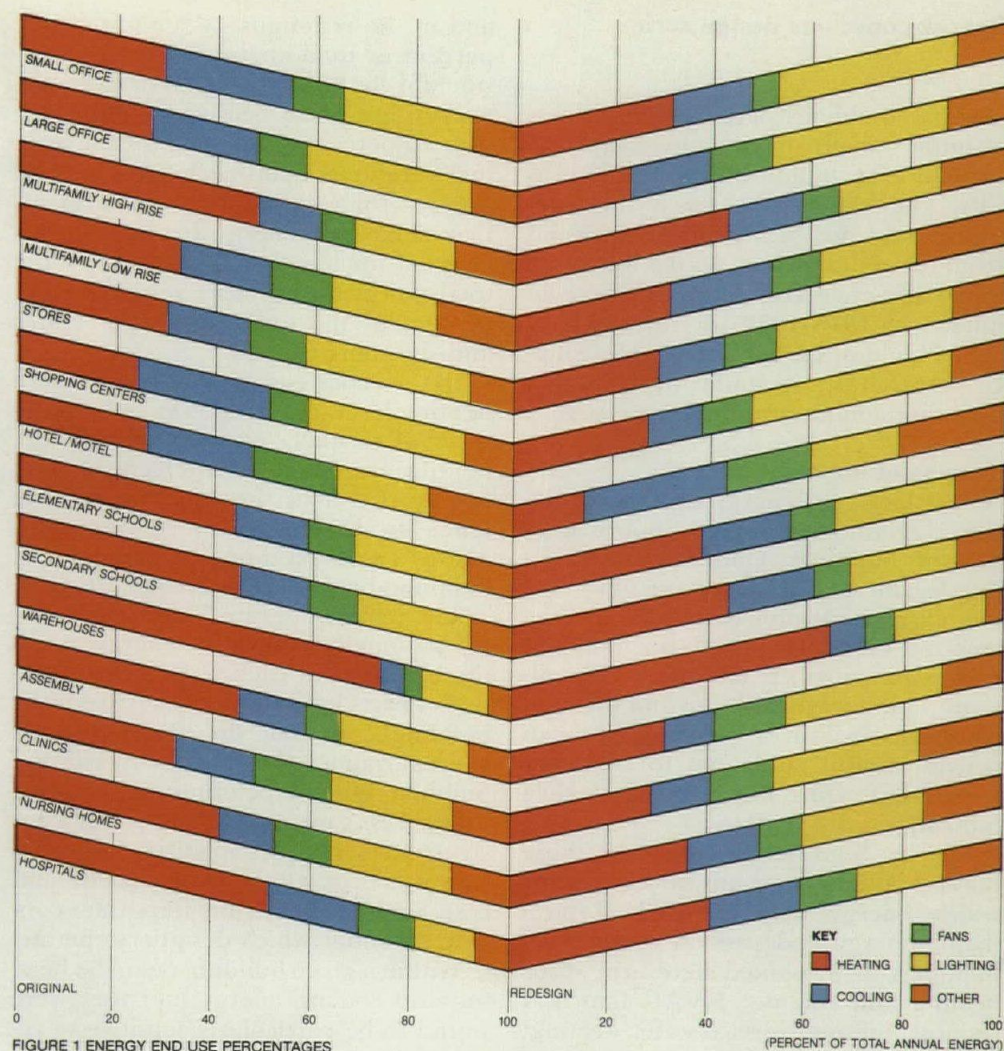
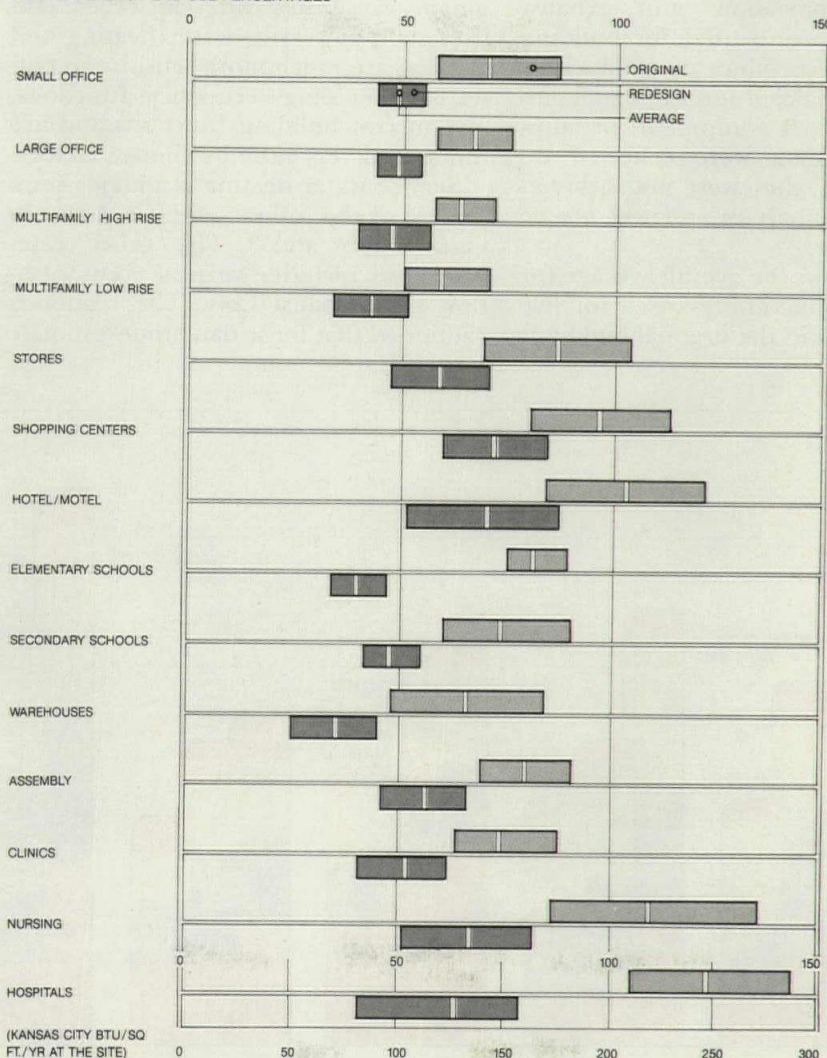

FIGURE 1 ENERGY END USE PERCENTAGES
FIGURE 2 ENERGY PERFORMANCE RANGES
**Figure 1** Bar sections indicate original and redesign energy and use percentages for each building type. **Figure 2:** Bars show original and redesigned building energy performance ranges for Kansas City, to represent an average or national climate condition. The center line in each bar indicates the average (actually the 50th percentile) for each range. The ranges shown exclude the extreme 20 percent at each end.
original buildings. Figure 2 indicates example ranges of annual energy performance by building type for Kansas City. The cost effectiveness of the redesigns could not be adequately assessed from the redesign data, and a follow-up initial life-cycle cost analysis was conducted in 1979-1980 for three typical office buildings from the sample. Similar research is now under development for other commercial building types.
Figure 1 shows the overall average for percent of annual energy used for five major end uses in the original buildings
The percentages in Figure 1 indicate the national averages for energy use in the buildings of each type. These summary charts indicate general patterns by building type, but do not necessarily show variations that can occur within a building type depending on regional influences such as climate, local construction techniques, material usage, design practices, and fuel availability and cost. Such factors define important constraints under which designers operate.
Service water heating is a major component of the "other" end use shown in Figures 1, 2, and 3. The "other" category also includes vertical transportation and exhaust fans. The reader is cautioned that these data underestimate
The range of annual energy usage for most redesigned building types was smaller than the usage range estimated for the original buildings. This is illustrated in Figure 2, and suggests that carefully selected design strategies can temper overall regional influences on both energy use and percentages of end use.
The research provided estimates of the energy behavior for a number of building types, as well as some estimate of the impact of climate on each type. Also, from the results from the sample buildings, new building annual energy target ranges were developed for 16 building types in some 78 cities by using a statistical estimating procedure. Example results for one city are shown in Figure 2.